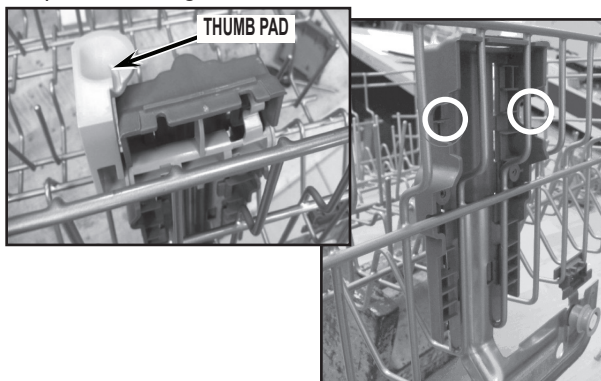

FIGURE 7
9. Next, the adjuster actuator needs to be installed. The actuator needs to have the thumb pad facing the front of the rack for correct/optimal adjuster operation. There are two (2) half circle cut-outs on the adjuster body that will hold the actuator in place. See *Figure 7*.